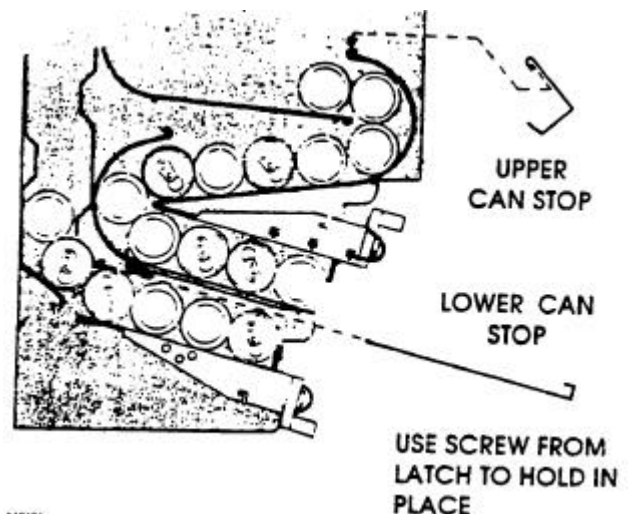

Figure 9
- Insert the Upper Can Stop (P/N 1211018) by hooking it over the rod and clamping it down over the can. See **Figure 9**.